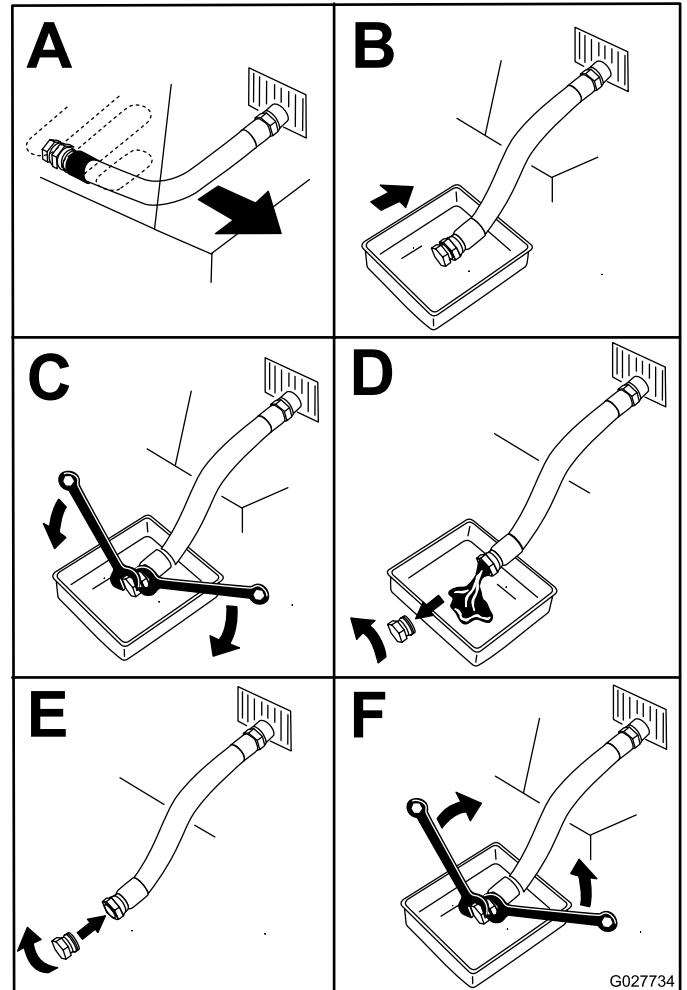

Figure 65
5. Drain the oil from the engine (Figure 65).